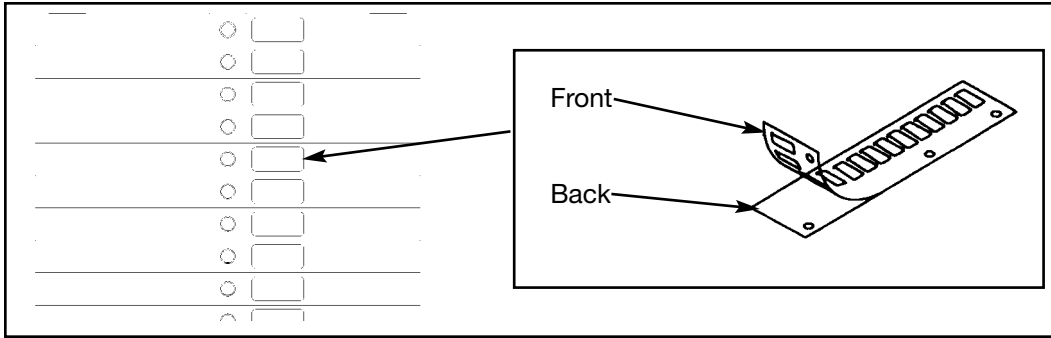

Figure 11
6. Install weight plate decals (see steps 5A - 5E and Figure 11).